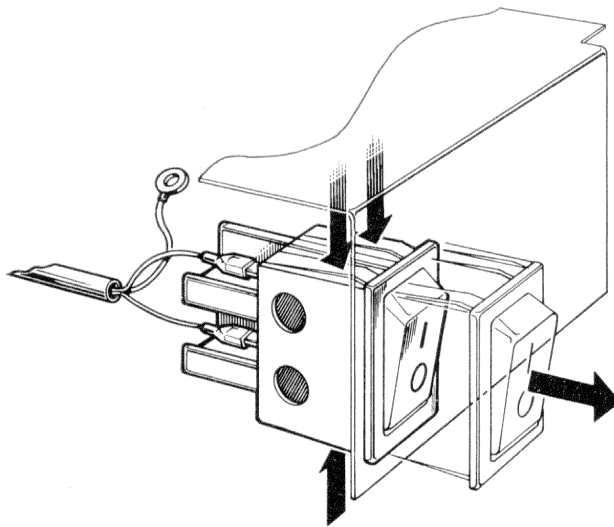

Figure 6-6 ON/OFF Switch Removal
4. Press the top and bottom of the ON/OFF switch and push the switch and its cable out from the inside of the front panel. (Figure 6-6)